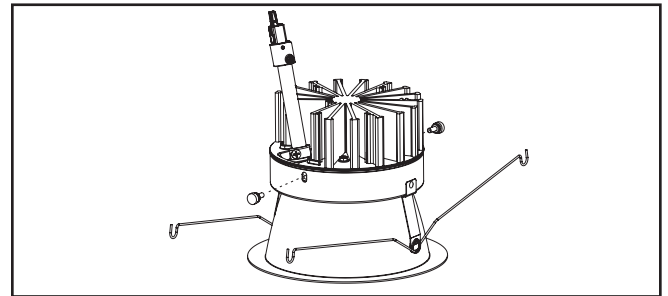

Figure 9.
6. Using provided thumb screws, securely attach lower trim to LED engine (Figure 9.).